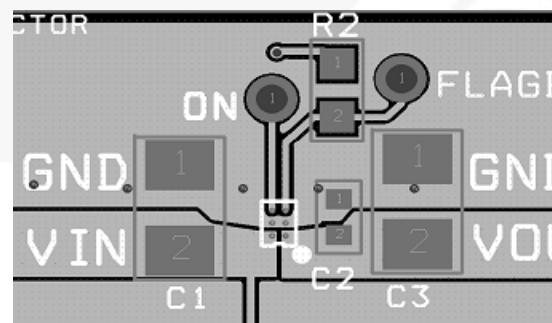

Figure 28. FPF2020X Proper Layout
- The V_{IN} , V_{OUT} and GND pins will dissipate most of the heat generated during a high load current condition. Using wide traces will help minimize parasitic electrical effects, along with minimizing the case to ambient thermal impedance. The layout suggested in Figure 28 provides each pin with adequate copper so that heat may be transferred out of the device as efficiently as possible. The low-power FLAGB and ON pin traces may be laid-out to maximize the area available to the ground pad.